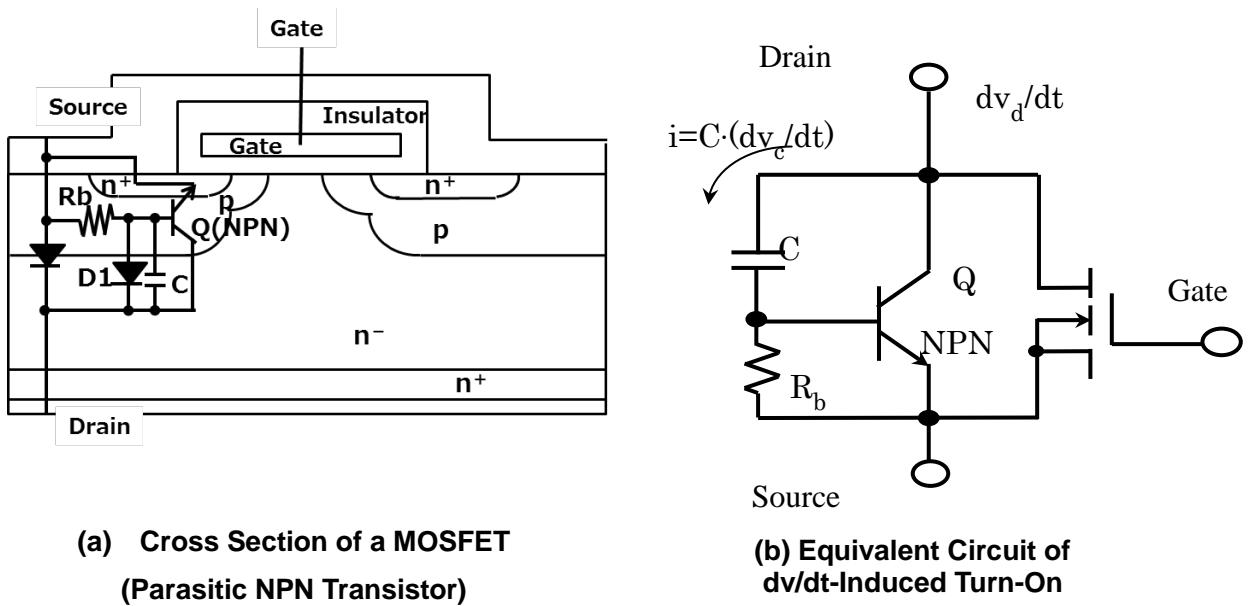

Figure 1.4 Cross Section and Equivalent Circuit of a MOSFET
When the drain-source voltage is raised sharply at the turn-on of a MOSFET, a displacement current flows to the PN junction capacitance (C) between drain and source, as shown in Figure 1.4, due to the rate of voltage change dv/dt . The displacement current is calculated as $i=C \cdot (dv_c/dt)$. Current i causes a voltage drop of $i \cdot R_b$ due to the resistance R_b of this layer. If the voltage drop exceeds the base-emitter forward voltage (V_{BE}) of the parasitic NPN transistor, it is forced into conduction.